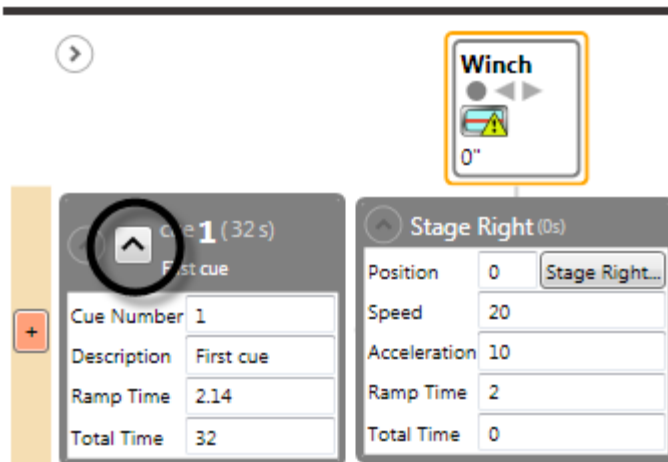

Figure 242
1. Click the **Load Cue** button in the **Cue Grid** (Figure 242).